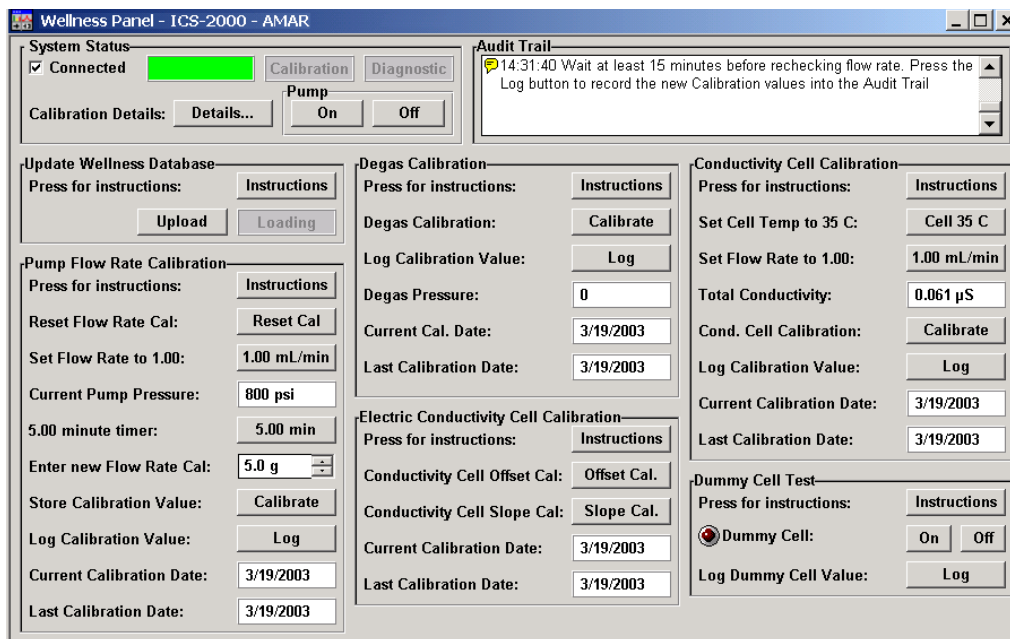

Figure 5-1. Chromeleon Wellness Panel
Diagnostic and calibration procedures can be performed either from the touch screen or from the Chromeleon Wellness Panel (see Figure 5-1).
**After completing a calibration procedure from the touch screen, always update the Chromeleon Wellness database by clicking the Upload button on the Chromeleon Wellness Panel (see Figure 5-1). This action ensures that the current calibration information is stored in Chromeleon as well as in the ICS-2000.**